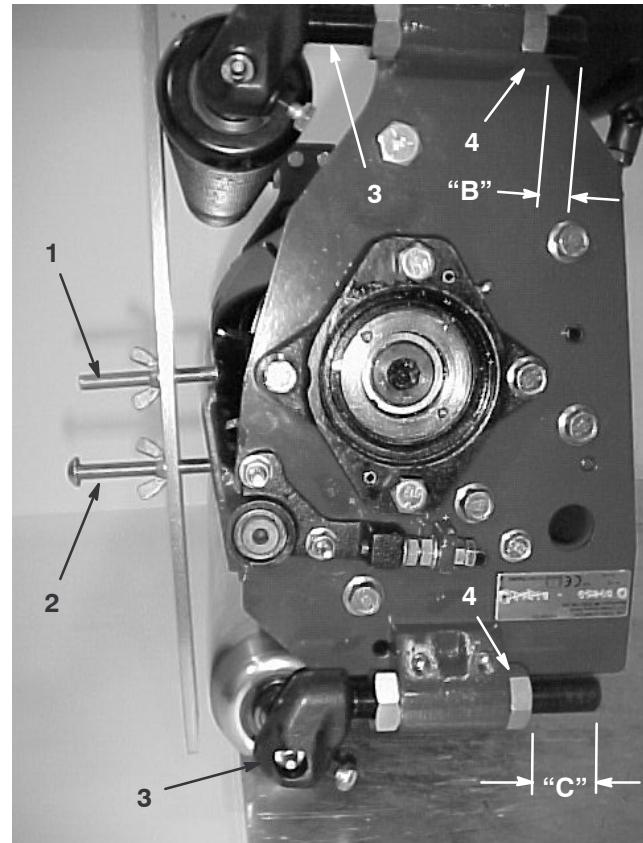

Figure 8
3. Set the front height-of-cut rod height, "B," using the dimension given in **Table 1**. This measurement is between the top surface of the height-of-cut rod and top cone nut (Fig. 8).
4. Set the rear support casting in either the top or bottom location as indicated in **Table 1**. Set the rear height-of-cut rod height .100" (3 mm) less than the dimension given in **Table 1** which will create a gap between the rear roller and the gauge bar (Fig. 8).
Note: Place gauge bar across front and rear rollers. The first screw head should fit snugly over edge of bedknife and the end of second screw should contact bottom of bedknife (Fig. 8). If there is a gap between the front roller and the gauge bar or you can not put the gauge bar on, adjust the front roller until: (1) first (height-of-cut) screw fits snugly over bedknife, (2) second screw just contacts bedknife, and (3) gauge bar touches front roller. Verify front roller (attitude) at each end of the bedknife.